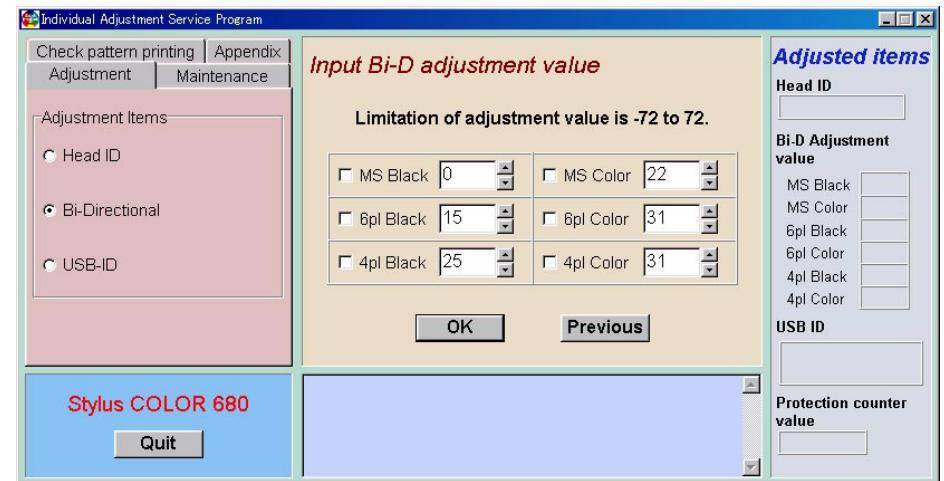

Figure 5-12. Input the suitable value
4. Check the printed pattern. Choose the misaligned dot size and Input the suitable value in the menu and click the “OK” button. The input value is written in the specific address of the EEPROM. Refer to Figure 5-12.